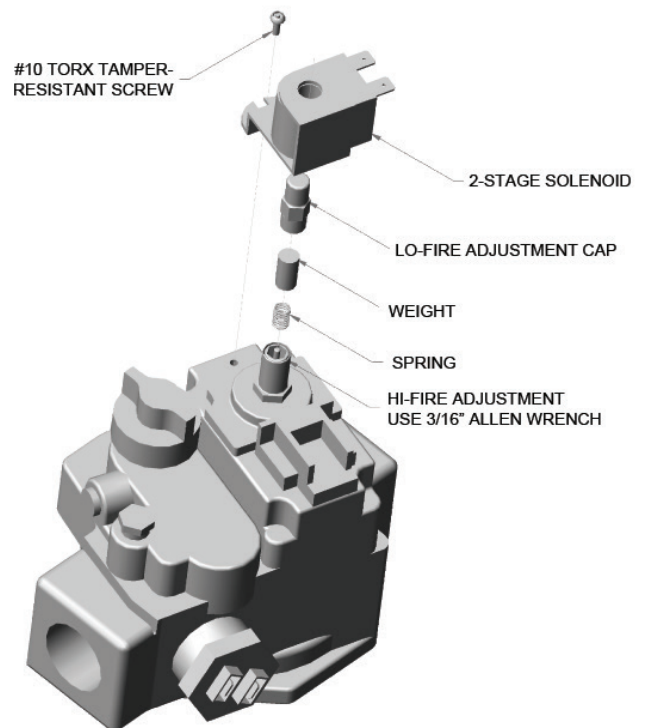

Figure 47. 2-Stage Gas Valve Adjustment (Invensys)
5. Using a 3/8" wrench, carefully remove the aluminum cap that was under the solenoid valve-count # of turns when removing the cap. Be careful not to drop the cylinder (weight) or the small spring that is under the cap. See Figure 47.
7. Using an Allen wrench, turn the screw clockwise to increase or counterclockwise to decrease high fire manifold pressure. See Figure 47.